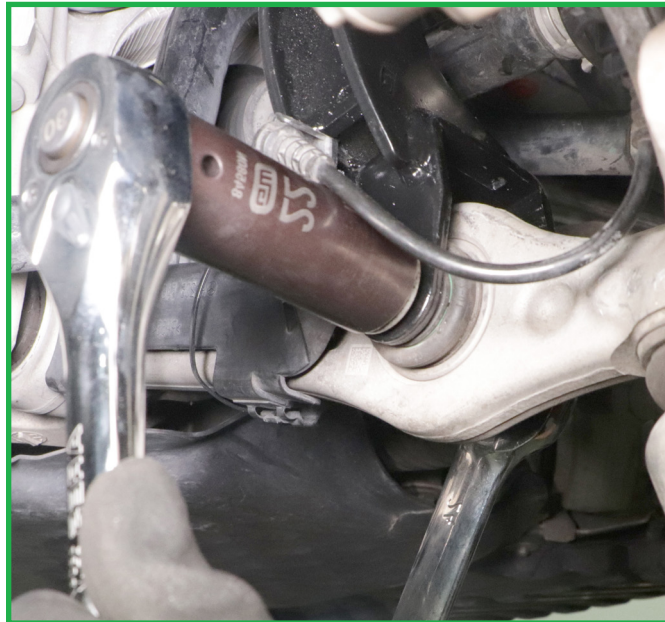

FIGURE 16
3. Reinstall the strut's lower fork mount bolt and nut. Tighten to manufacturer's specifications. (Figure 16)